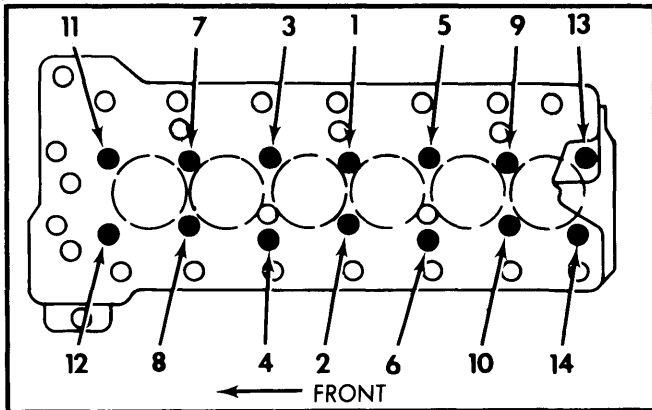

Fig. 1 Cylinder Head Tightening Sequence (Remove in Reverse Sequence)
**Installation** — Install steel gasket on cylinder head without sealing compound. Place camshaft housing on head. Oil head bolts and tighten to specifications. Loosen 5 deeper head bolts slightly, then tighten all head bolts to final torque in sequence shown in Fig. 1.